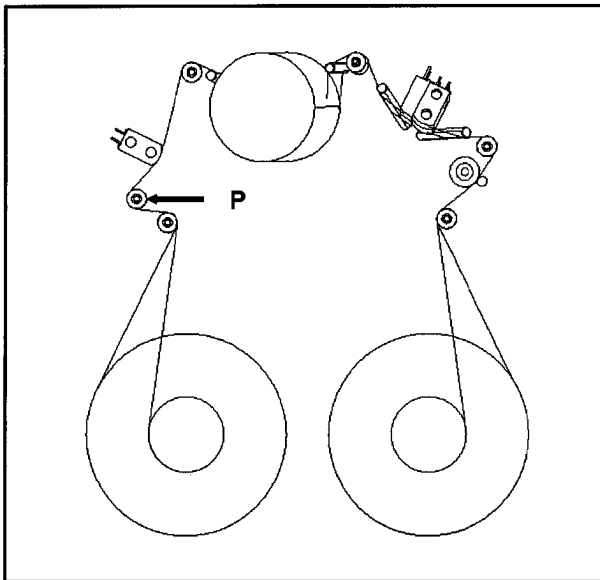

Figure 3-18-2
1. Confirm the screws (G) and (H) are tightened.
3. Press the Tension Arm to the direction P as shown in the figure 3-18-2. Confirm that the fluctuation of output level is within the specification.